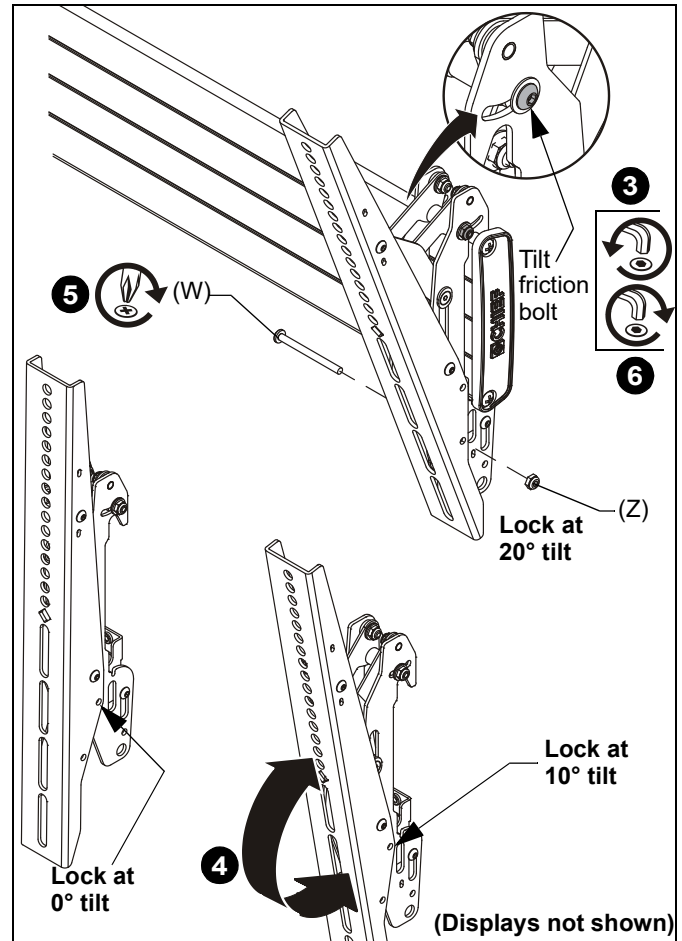

Figure 13
3. If necessary, loosen button head tilt friction bolt (located on side of interface bracket). (See Figure 13)
4. Adjust tilt as required. (See Figure 13)
5. The tilt may be locked at 0°, 10° and 20° using one 10-24 x 2-1/4" Phillips head screw (W) and one 10-24 lock nut (Z) per interface bracket. (See Figure 13)